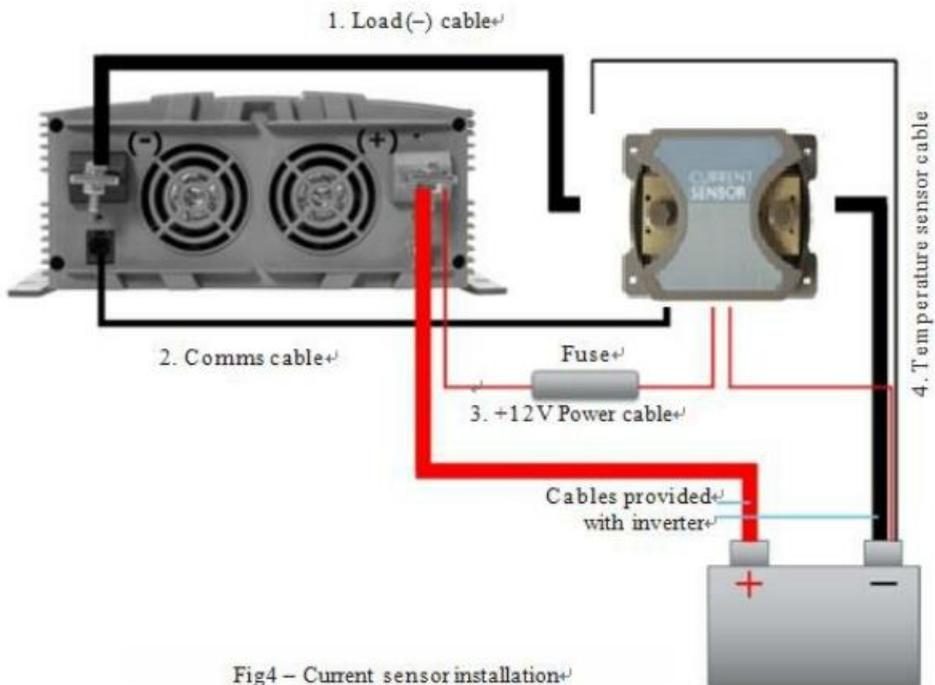

Fig4 – Current sensor installation
To enable monitoring of the input current and hours remaining function, the optional current sensor should be fitted as shown in Fig4
3. Now connect cables 1-4 (supplied with current sensor) as shown in Fig4